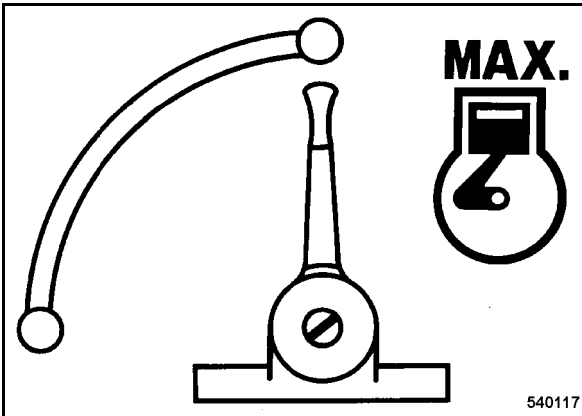

Fig. 13
- Set the throttle lever (Fig. 13) to position "MAX".